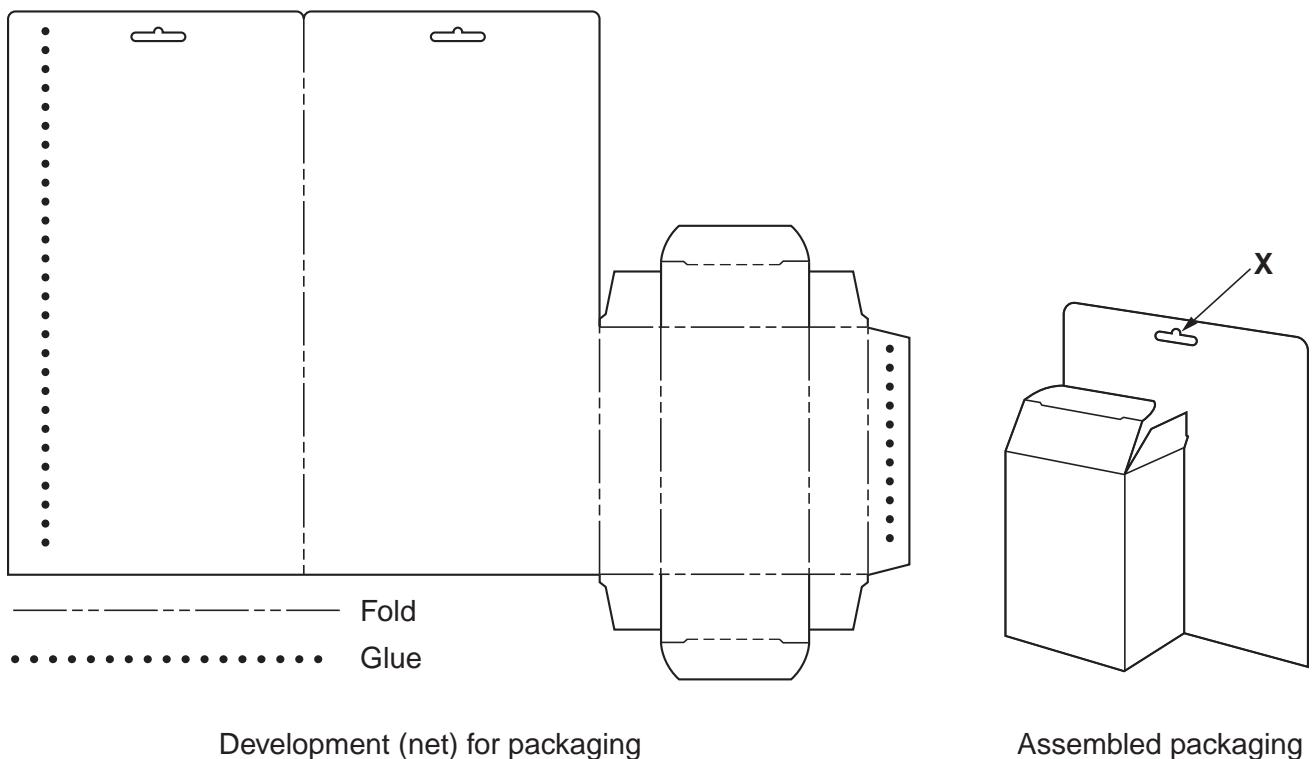

Fig. 5
- 5 Fig. 5 shows a design for packaging an MP3 player.